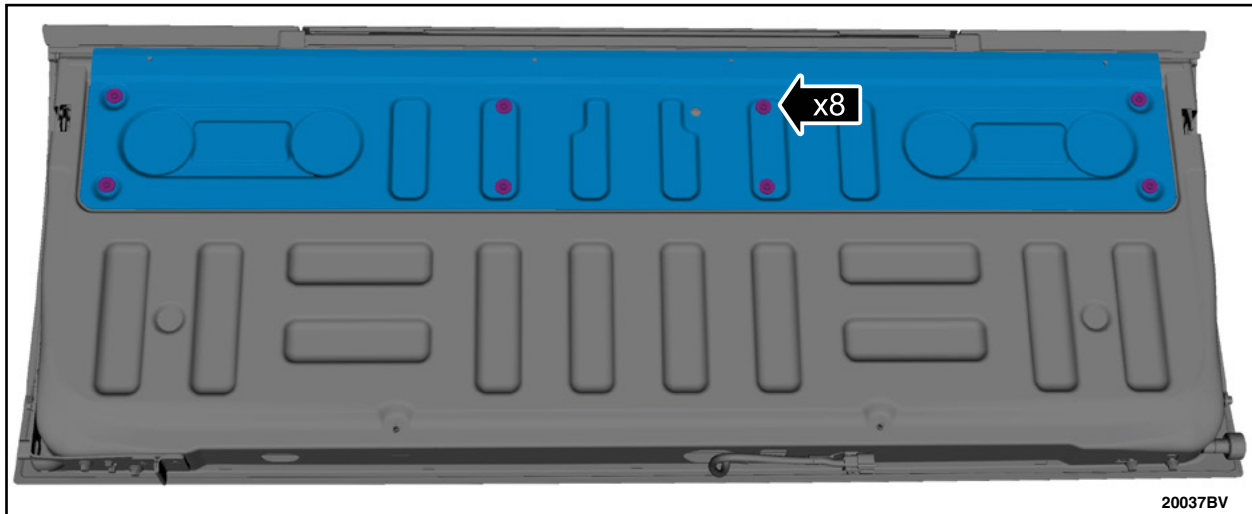

FIGURE 43
62. If equipped, remove the tailgate access panel bolts and the tailgate access panel. See Figure 43.